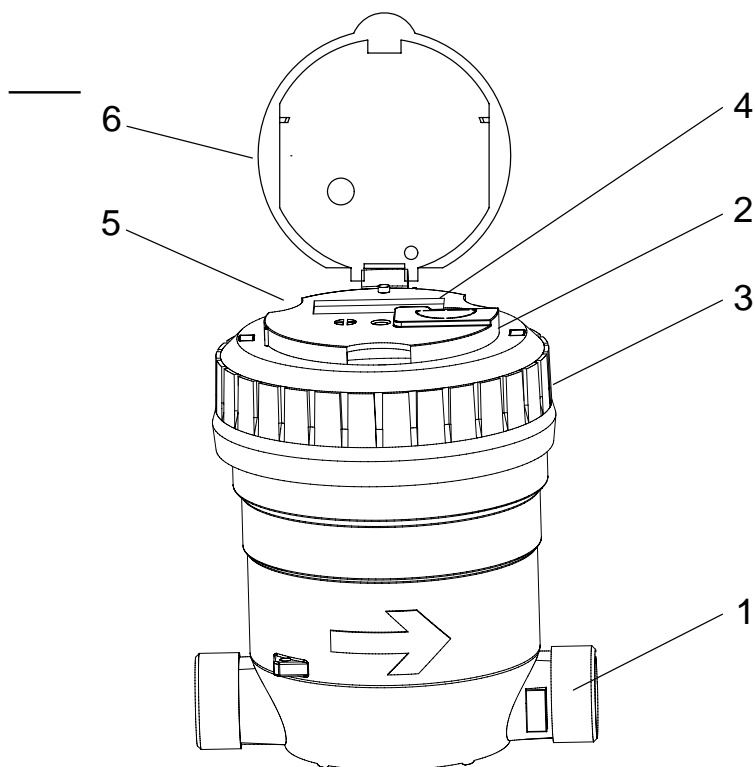

fig. 1
Altair (fig. 1) is made up of a pressure-resistant cylindrical (1) brass body with two connections. It is topped by a register (2) with number wheels and the Sappel anti-mist system. The meter is assembled by means of a blue plastic ring (3) with the basic EEC verification mark and the various mandatory markings. The blue ring turns freely so that the register can be rotated over 350°. The notches (5) on the edge of the register are used to put in place a Pulsar pulse transmitter.